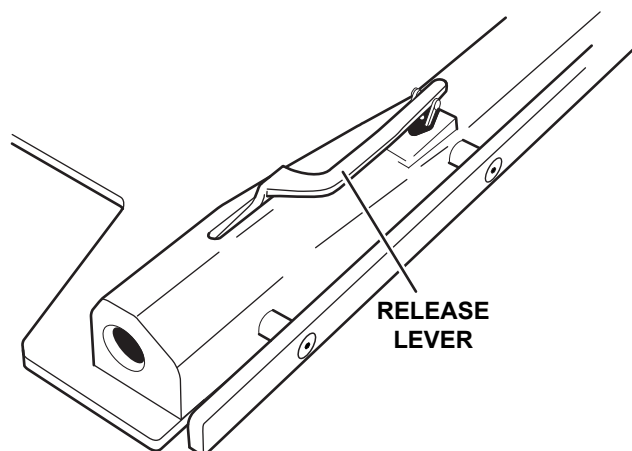

Figure 32. Leg Section
1. Ensure the leg section release levers lock and release properly (Figure 32).